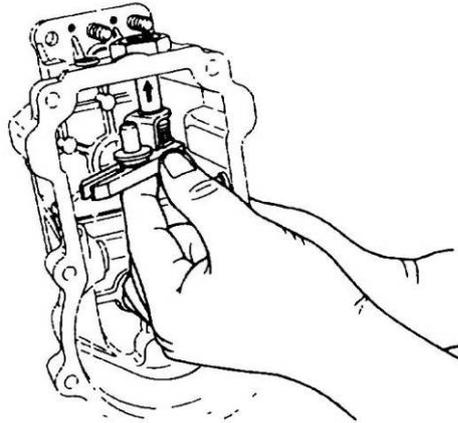

Figure 111 Installation of the Control Lever Shaft Assembly
- h. Lubricate the sealing lip on the oil seal with grease and carefully install the control lever shaft assembly into the bore at the top of the governor cover (Figure 111). Position the control lever over the control lever shaft, install the retaining nut together with a new spring washer and tighten the nut securely.